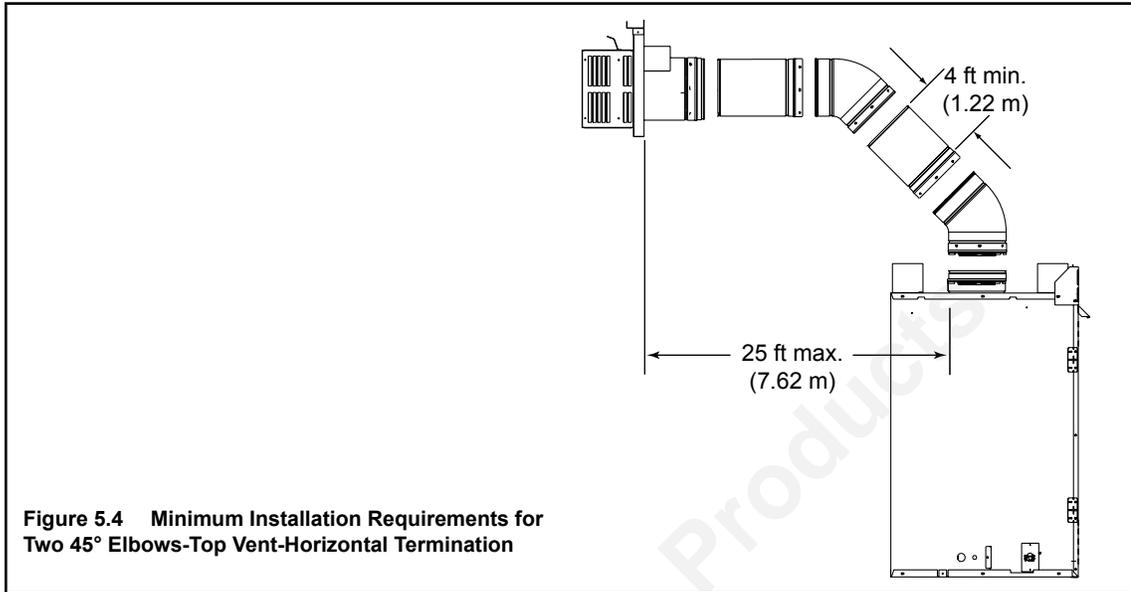

Figure 5.4 Minimum Installation Requirements for Two 45° Elbows-Top Vent-Horizontal Termination
To replace the first starter elbow with two 45° elbows, refer to Figure 5.4. All other 90° elbows can be replaced with two 45° elbows.
- Elbows may be placed back to back anywhere in the system as long as the first 90° elbow is a starter elbow except as shown in Figure 5.4.